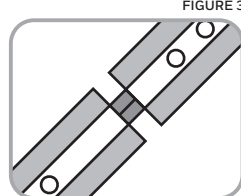

FIGURE 3
- b. Take care that the lens and LEDs are facing the same direction on all Bright Strips, and that they match up flush with each other (see Figure 3).